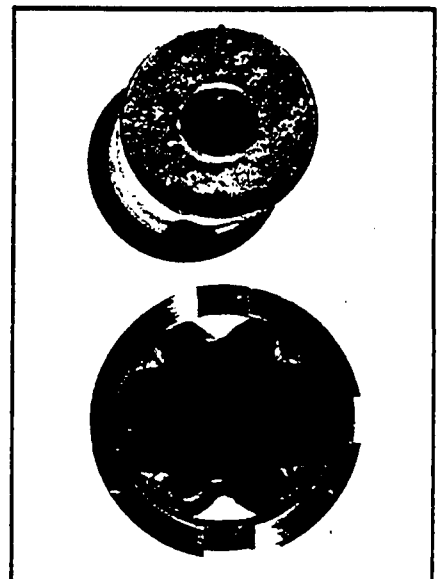

Figure 40
NOTE: The coupling shaft (11) has a timing mark on the small (output) end that is radially in line with two internal spline teeth and a "commutator drive pin slot" that transverse the opposite end of the coupling shaft, SEE FIGURE 40. The "commutator drive pin slot" indicated by the timing mark is the only slot of two oil passage slots across the large end of the coupling shaft, wide enough to engage the commutator drive pin (10) at assembly. This orientation of the coupling shaft splines and drive pin slot is important to subsequent assembly procedures that will produce the required rotor (6A) lobe and commutator (9) "fixed" radial relationship at assembly.
NOTE: FIGURE 40, shows two coupling shafts to better illustrate the relative positioning of the timing mark, drive pin slot and internal spline tooth.